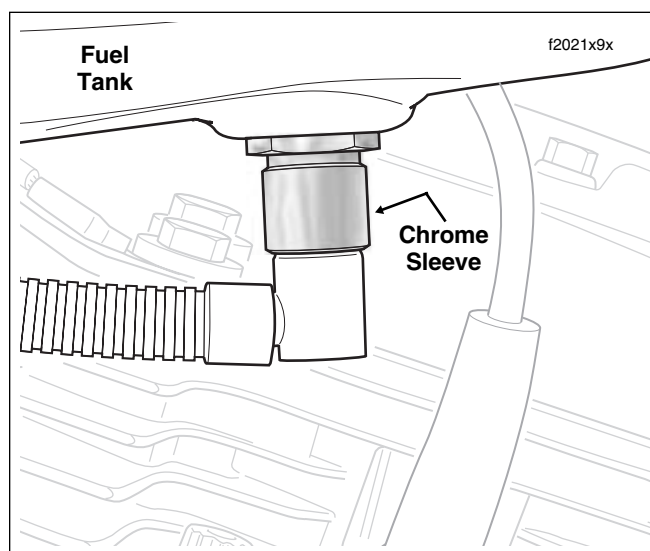

Figure 9-11. Fuel Supply Line Fitting
11. Locate quick-connect fitting on left side of fuel tank. Pull up on chrome sleeve and pull down on fuel supply line fitting to disconnect. See Figure 9-11.
9. Locate quick-connect fitting on left side of fuel tank. Pull up on chrome sleeve and pull down on fuel supply line fitting to disconnect. See Figure 9-11.
10. Locate quick-connect fitting on left side of fuel tank. Pull up on chrome sleeve and pull down on fuel supply line fitting to disconnect. See Figure 9-11.